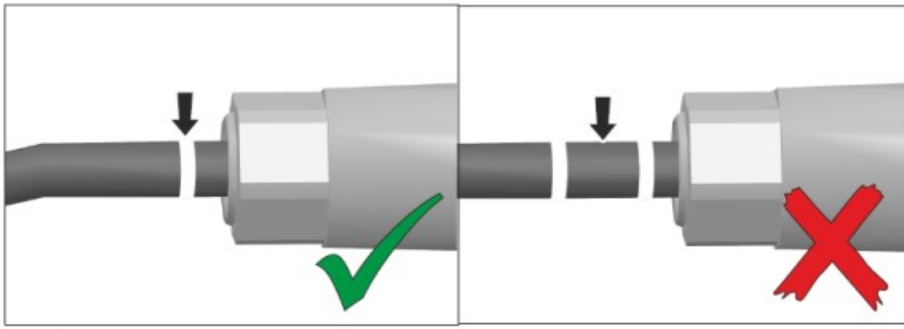

Figure 18
**HINT:** The air lines must be connected with only one single 'paint marking' visible (Figure 18)